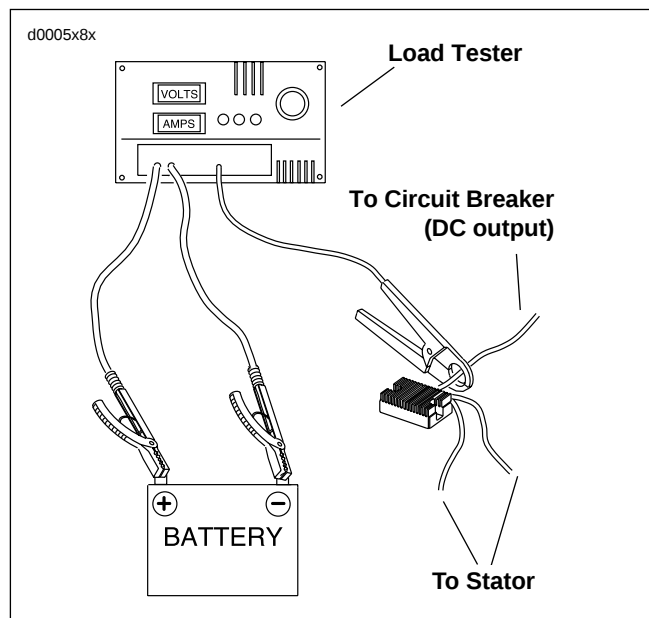

Figure 7-23. Current and Voltage Output Test
1. See Figure 7-23. Connect load tester.
1. See Figure 7-23. After removing the load, read the load tester voltage meter.